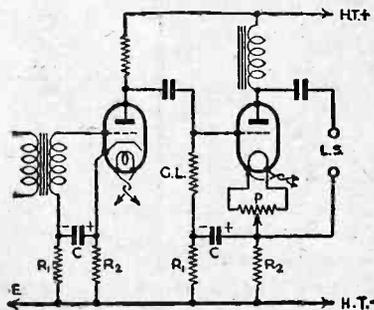

Fig. 7.—This circuit shows the methods of biasing and decoupling a directly-heated output valve in a mains set.
Somewhat different grid-bias arrangements have to be made when an output valve of the directly-heated type is employed in conjunction with others with indirectly-heated cathodes, and one very simple system is illustrated in Fig. 7. Here it is assumed that there is only a single heater winding provided on the mains transformer, and this has to supply the cathodes of both directly- and indirectly-heated valves. It will be seen that the bias is applied to the output valve by means of the usual resistance (R.2) but that this is connected between the centre point of a 30-ohm potentiometer (P) in parallel with the filament and the main H.T. negative lead. A decoupling resistance is again used, and this time it is wired between the lower end